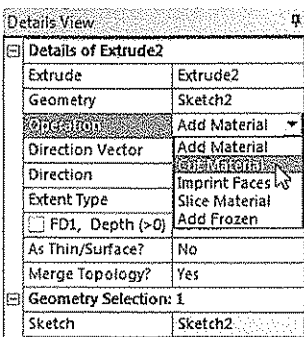

Figure 3-44 Selecting the **Cut Material** option from the **Operation** drop-down list
24. Select the **Cut Material** option from the **Operation** drop-down list in the **Details View** window, refer to Figure 3-44; the preview of the material to be removed from the existing base feature is displayed in the **Graphics** window.